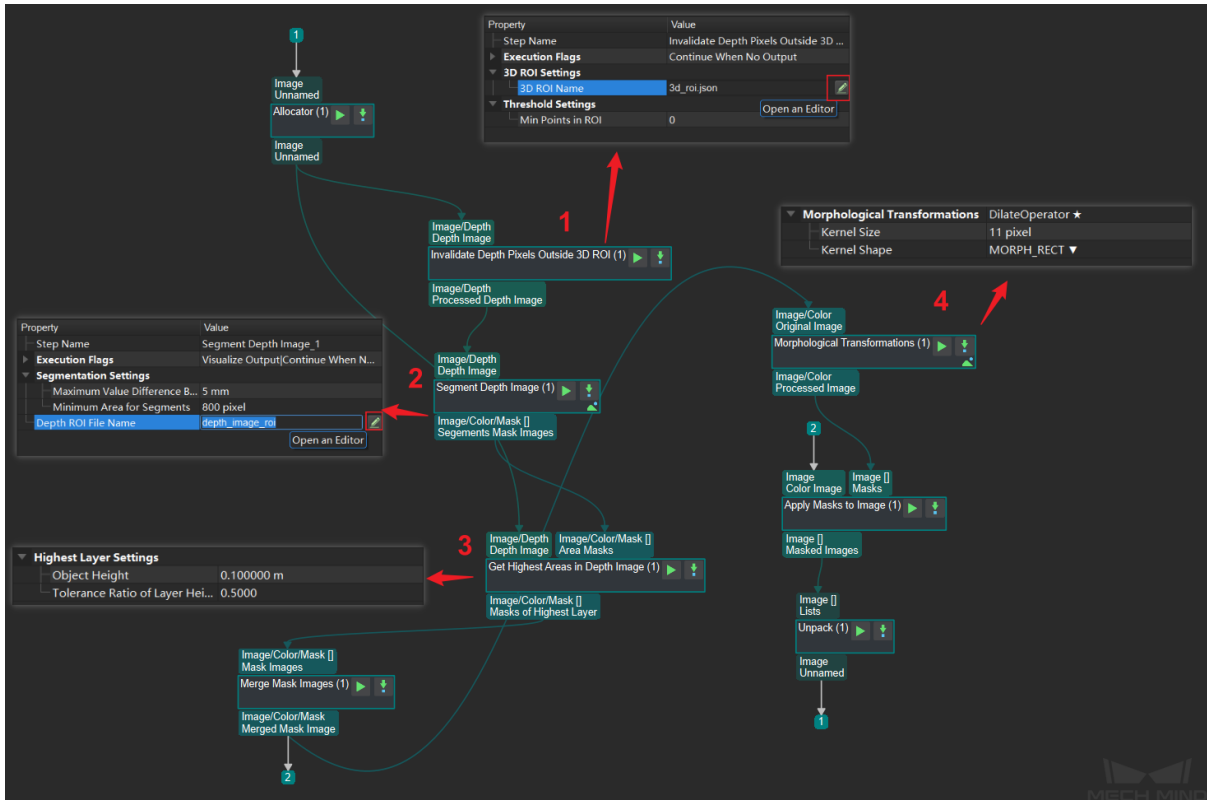

Figure 2. Parameter tuning
- The parameter tuning is as shown in *Figure 2*.